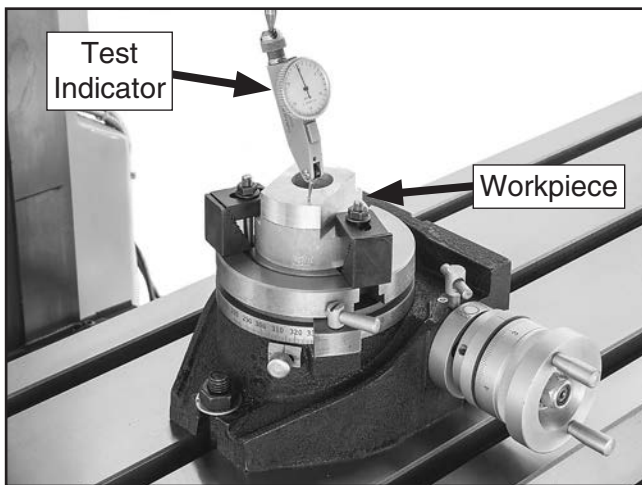

Figure 18. Example of aligning workpiece using a test indicator.
1. Position test indicator with magnetic base beside rotary table, as shown in **Figure 18**.